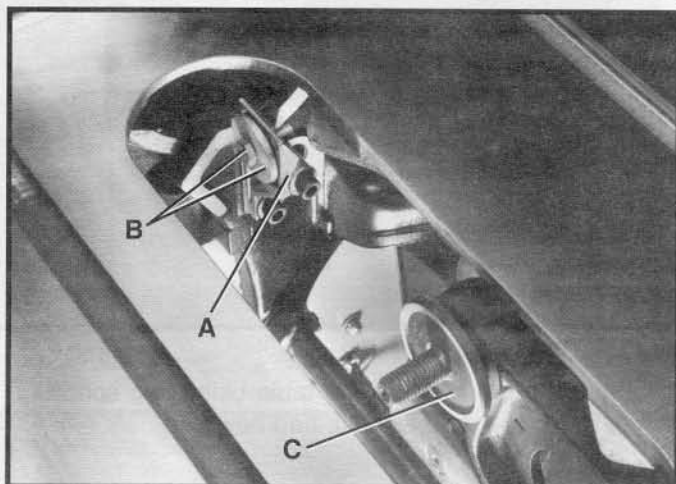
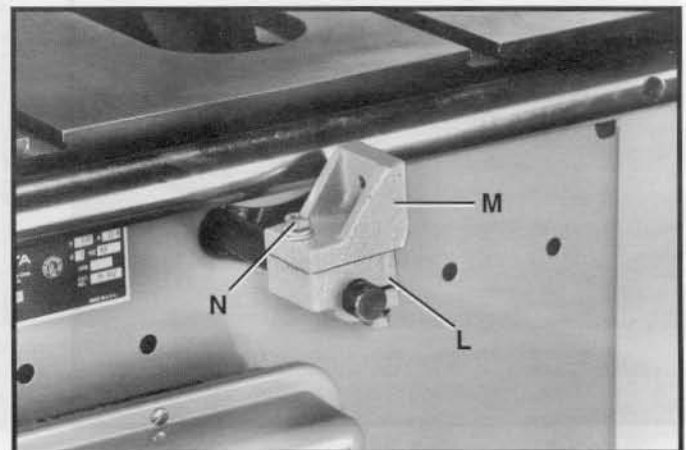

Fig. 17
Fig. 24
3. The inside splitter mounting bracket (A) Fig. 17, is assembled to the inside of the saw and aligned at the factory. To check the alignment of the bracket (A) to the inside arbor flange (C), remove screw and splitter fastener plate (B) Fig. 17.
8. Assemble splitter bracket (M) Fig. 24, to lower bracket (L), using one inch-long hex head screw (N), lockwasher and flat washer. Do not fully tighten screw (N) at this time. Loosely reassemble screw and plate (B) Fig. 17 removed in **STEP 3**.